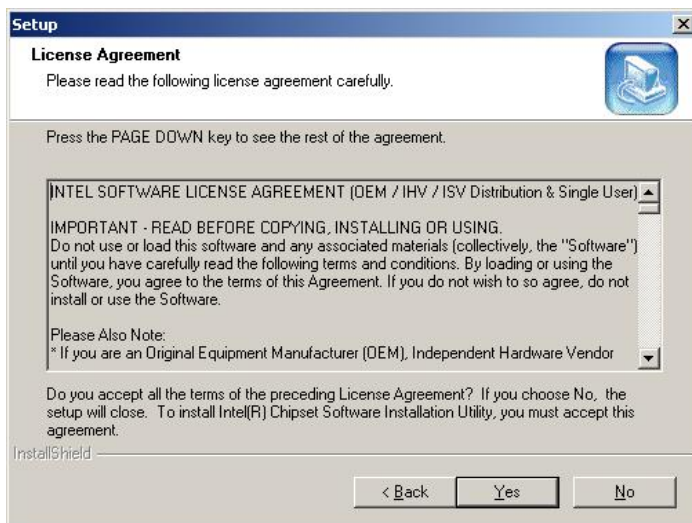

Figure 7-3: License Agreement
Step 5: Click “Next” and the license agreement shown in Figure 7-3 appears.